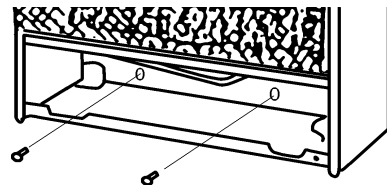

Figure 12 - Installing Bottom Mounting Screws
1. Locate two bottom mounting holes. These holes are near bottom on back panel of heater(see Figure 12).